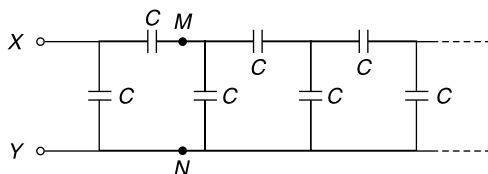

Fig. 2.41 A capacitive ladder network
2.29 Figure 2.41 represents a capacitive ladder network. Obtain equivalent capacitance across $(x - y)$.